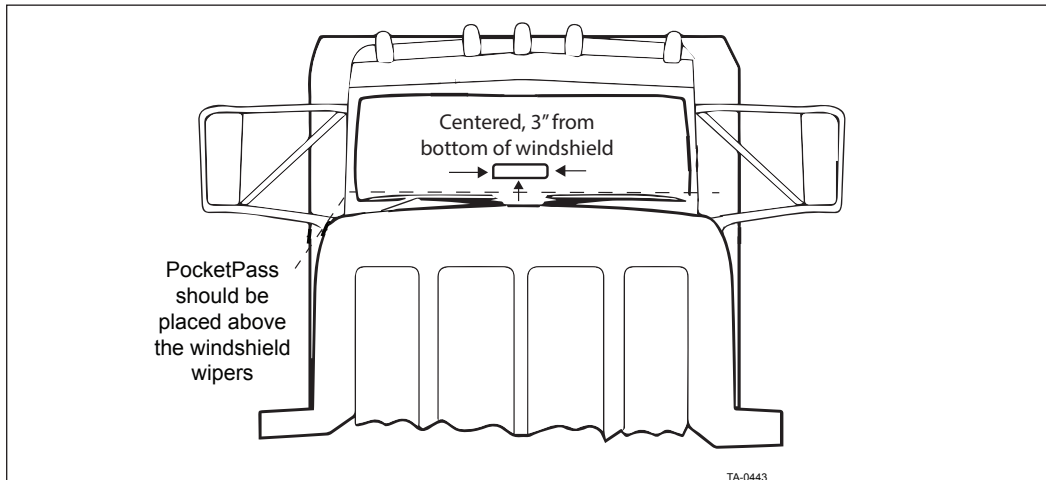

Figure 3 – Placement of PocketPass on one-piece windshield
1. If the vehicle has a one-piece windshield, the PocketPass should be mounted as close to the bottom center of the windshield as possible; at least 3 inches away from the windshield frame or dashboard, and above the windshield wipers (Figure 3).